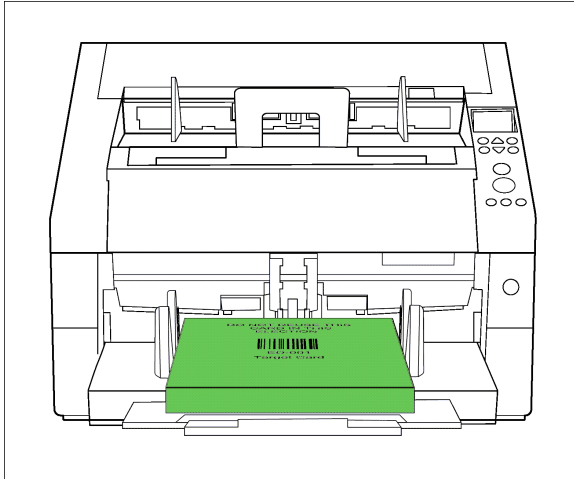

Figure 5-5. Cards in the output tray of the scanner
1. Place a stack of cards on the input tray of the scanner (Figure 5-5).